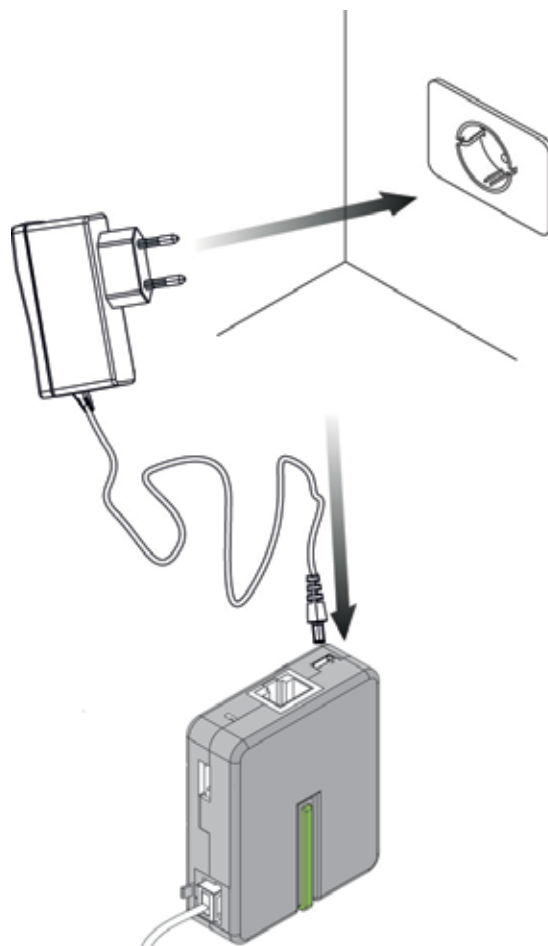

fig. 4.3
- Connect the power cord to the electrical socket (fig. 4.3).